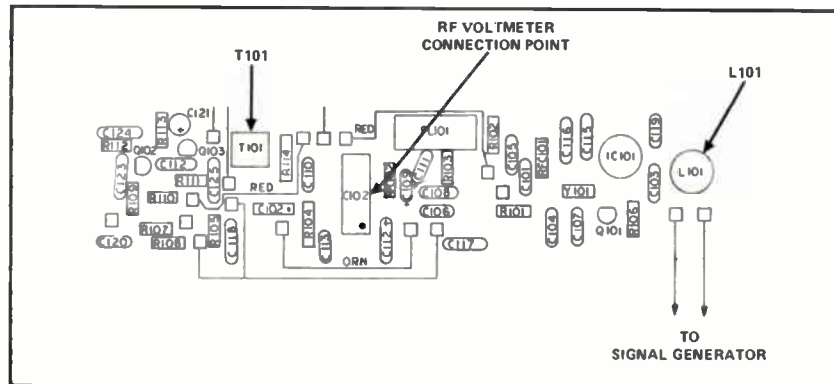

Figure 5-1. IF/Squelch Amplifier Tuning and Connecting Points
1. Disconnect twisted pair leads from IF/SQ board (Figure 5-1) to main board at the main board end. Connect these leads to the signal generator grounding one lead to the chassis (either lead may be grounded).
5. Connect RF voltmeter to pin 4 of IC102 and ground on IF/SQ board. See Figure 5-1.
4. Connect RF voltmeter to pin 4 of IC102 (Figure 5-1) and ground on IF/SQ board.
4. Connect RF voltmeter to pin 4 of IC102 (Figure 5-1) and ground in IF/SQ board.